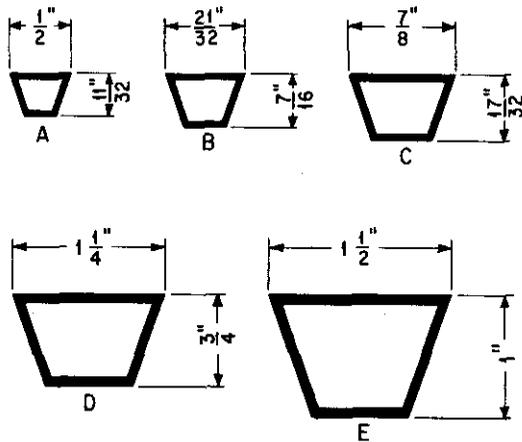

Fig. 1 - Standard V-Belt Cross-Sections
1.04 V-belts are manufactured in standard cross-sections "A to E," inclusive, Fig. 1, and in a varied assortment of lengths.